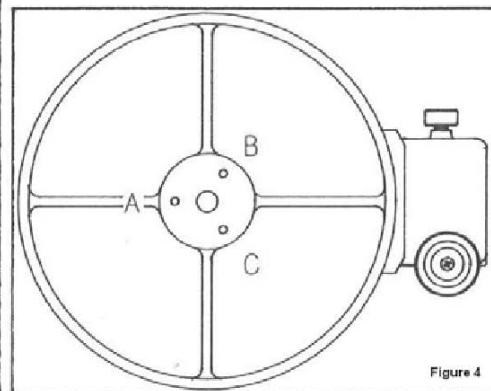
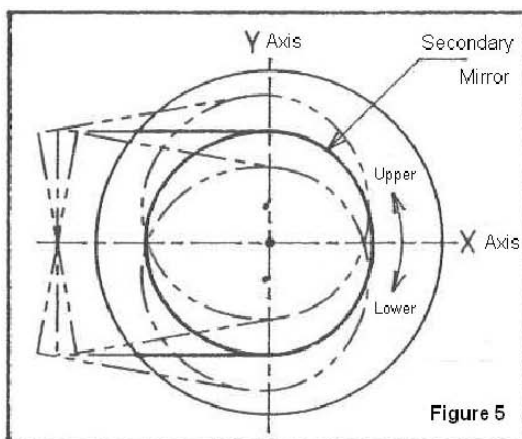

Figure 4
Figure 5
7. Next, check which side on the horizontal X axis of the imaginary cross hairs the dot can be seen. If the dot is just on the line of X axis, you can proceed to next step. If the dot is seen above of the line, it means that the secondary mirror comes near the upper side shown in the Figure 5. In this case loosen the collimation screw "C" and tighten the screw "B" on the spider shown in the Figure 4. If the dot is seen below of the line, loosen the collimation screw "B" and tighten the screw "C" oppositely.